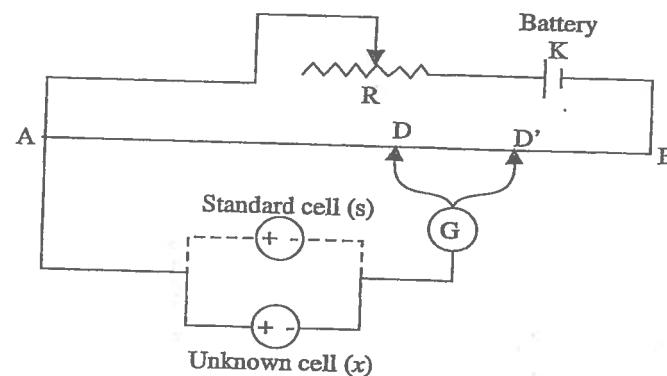

Fig. 2.6 Potentiometer for the measurement of emf
The potentiometer consists of a uniform wire AB (Fig. 2.6). A storage battery (K) is connected to the ends A and B of the wire through a rheostat (R). The cell of unknown emf ( $x$ ) is connected in the circuit by connecting its positive pole to A and the negative pole is connected to a sliding contact (D) through a galvanometer (G). The sliding contact is freely moved along the wire AB till no current flows through the galvanometer. Then the distance AD is measured. The emf of unknown cell is directly proportional to the distance AD.